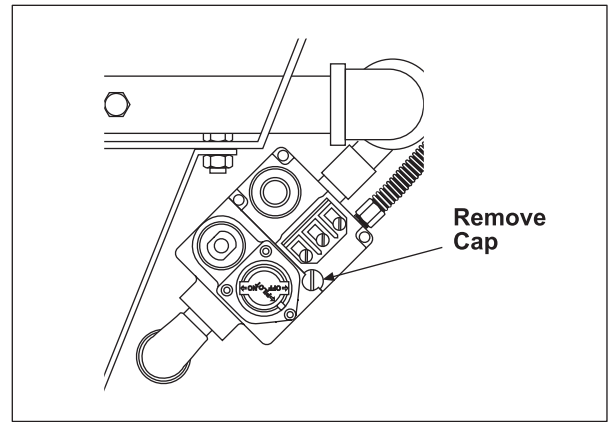

Figure 21
- Remove the cap covering pilot adjustment screw, (Figure 21). Turn the recessed pilot adjustment screw counterclockwise to increase the size of the flame or clockwise to decrease the size of the flame.